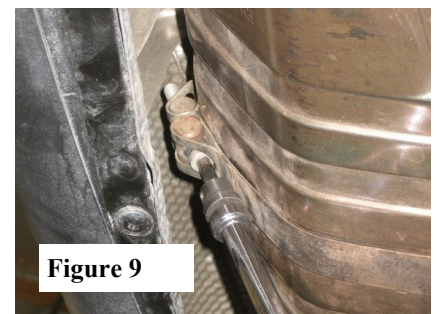

Figure 9
9. Loosen and move strap aside to allow center muffler to be removed. (See Fig. 9)